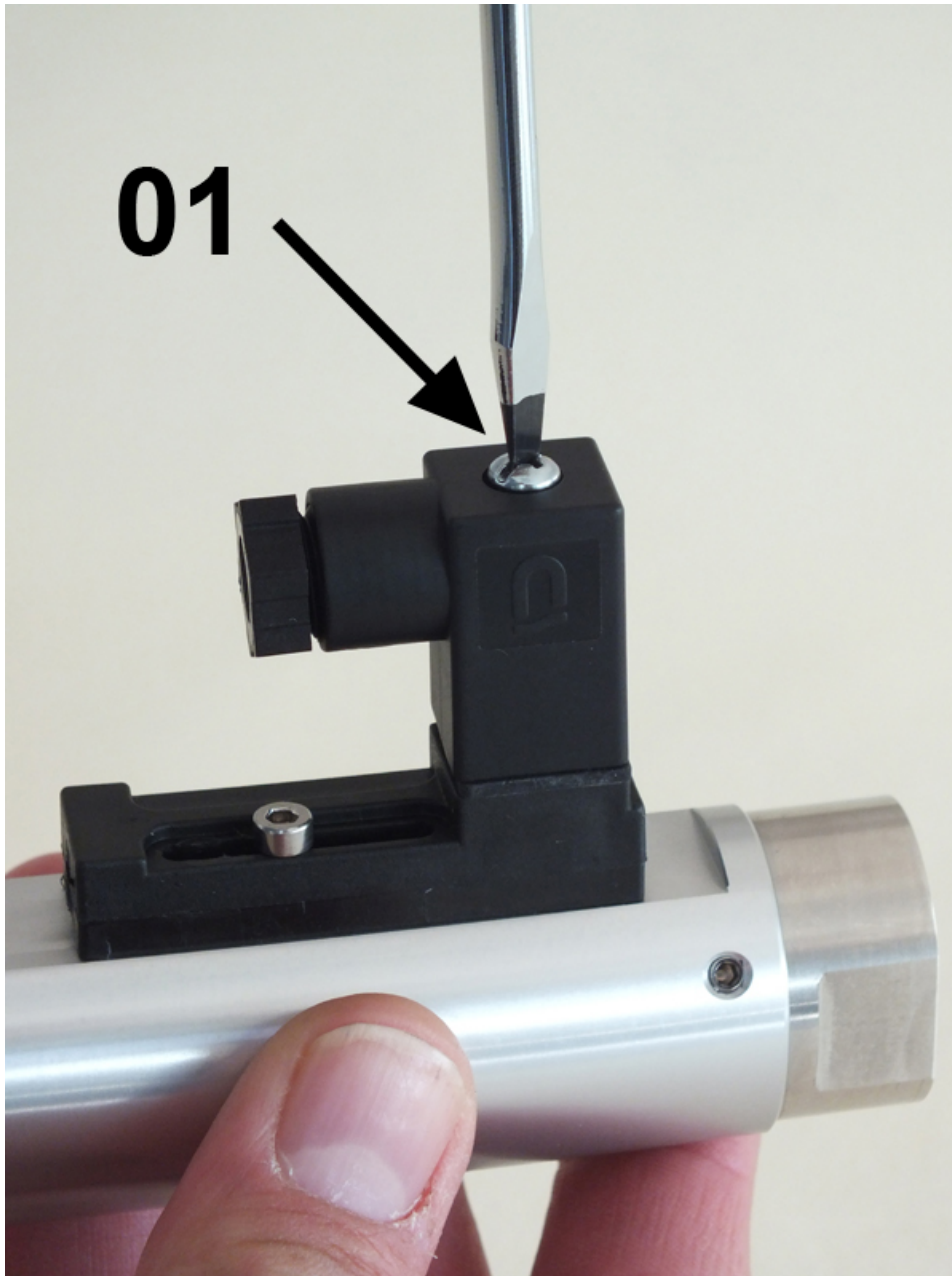

Fig. 53: Loosen female socket
- 1.** ➤ Loosen the fixing screw of the female socket (*Fig. 53/01*) with a flat-bladed screwdriver.